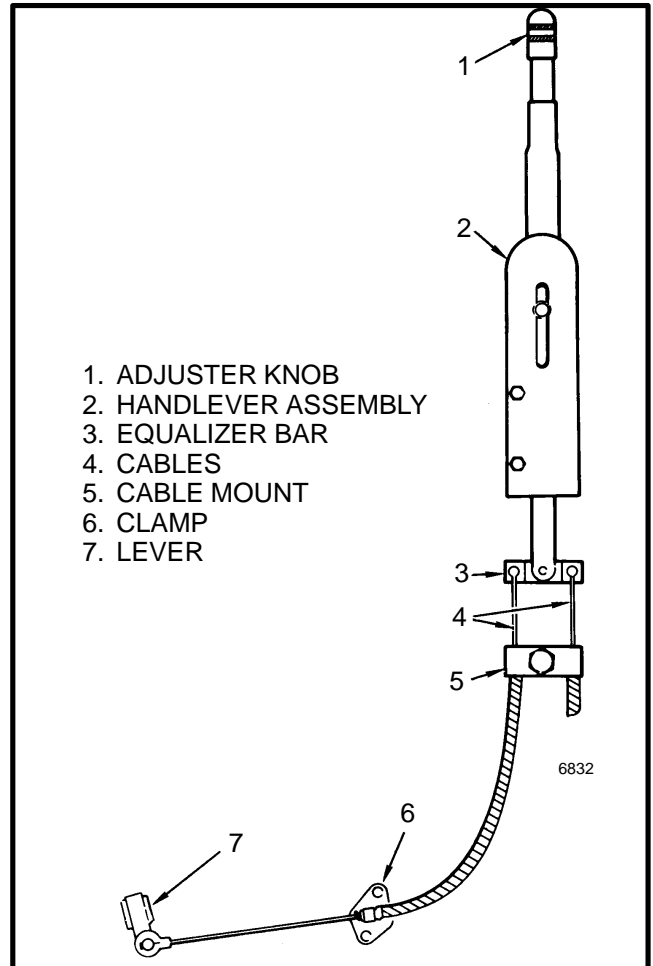

FIGURE 6. PARKING BRAKE LINKAGE
Turn the knob on the hand lever to adjust the parking brake. See FIGURE 6. Adjust until a 89 N (20 lbs) pull is needed to apply the lever.
7. Tighten the capscrews and screws to the correct torque as shown in FIGURE 6.
8. To manually release the park brake, loosen the screws (11) so that the bracket (8) is loose.